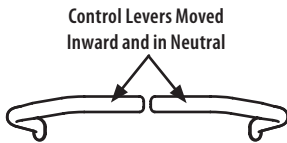

Fig. 20
2. Move the RH and LH lapbar drive control levers inward in the neutral position which also disengages the parking brake (Fig. 20).